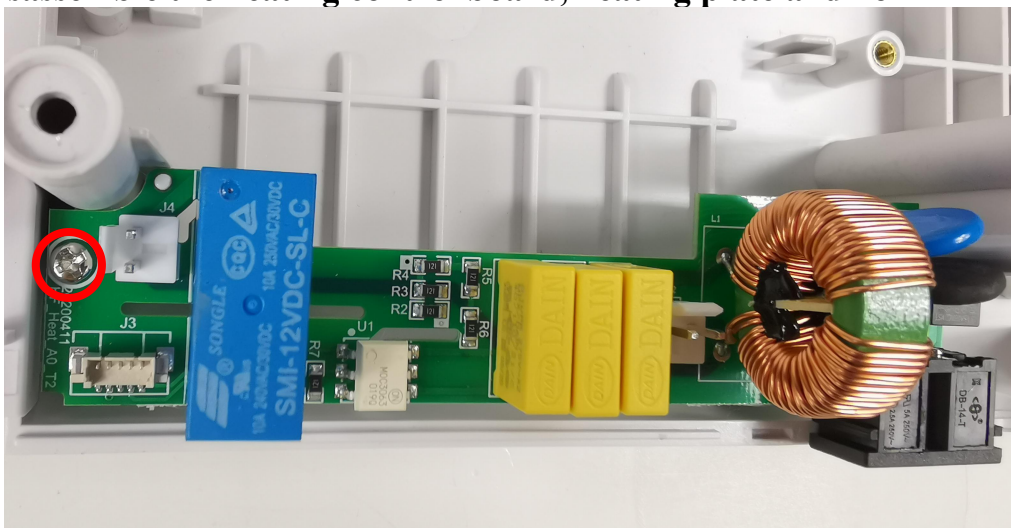

Figure 3-6-1
① Use a Phillips screwdriver to remove the screw in the red circle in Figure 3-6-1, carefully take out the heating control board.